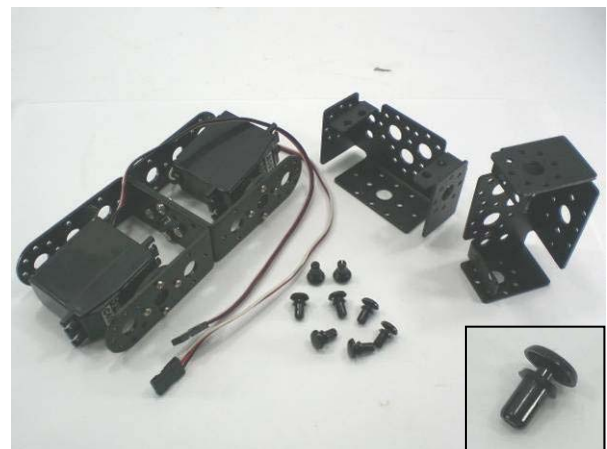

Figure 39
7. Prepare the components as shown in figure 39. 2 servo brackets, 8 servo rivets.